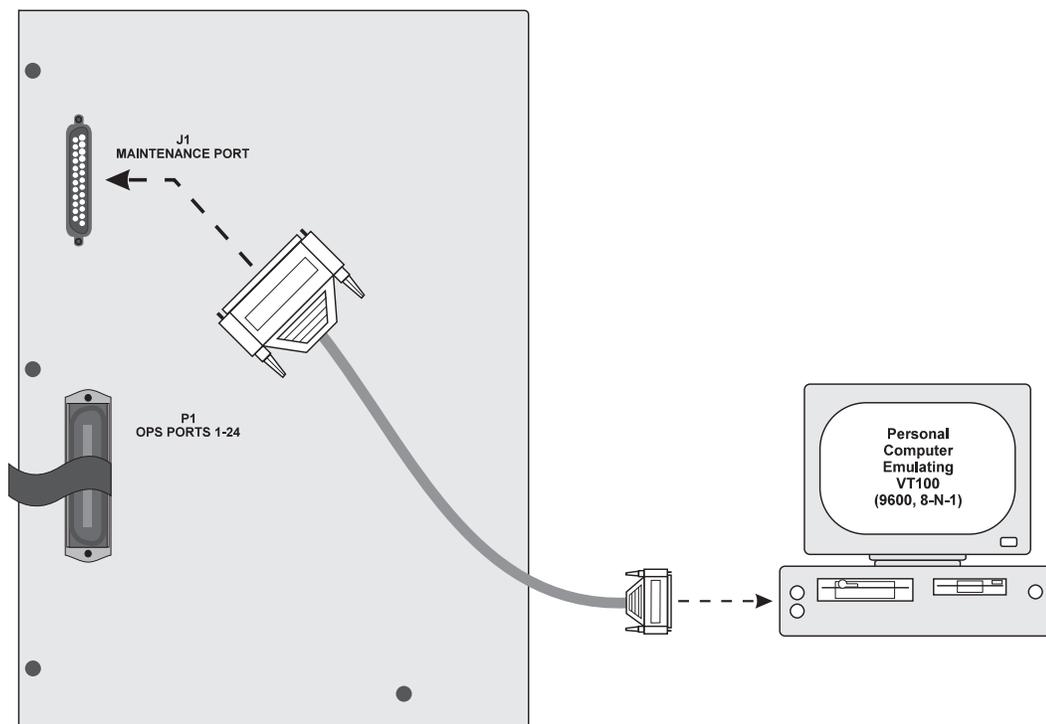

Figure 2-12. Connect Serial Communications Cable to Maintenance Port
- ❑ Connect the serial communications cable to the maintenance port on the System 920i. The maintenance port is shown in Figure 2-12.